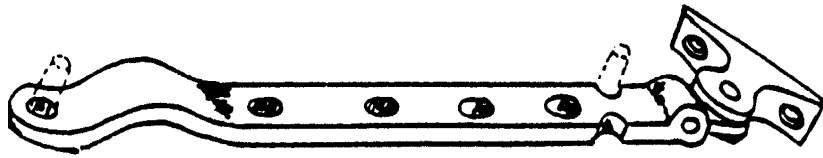

Fig.2
15. Name the item of hardware shown in figure 2 and state its use.